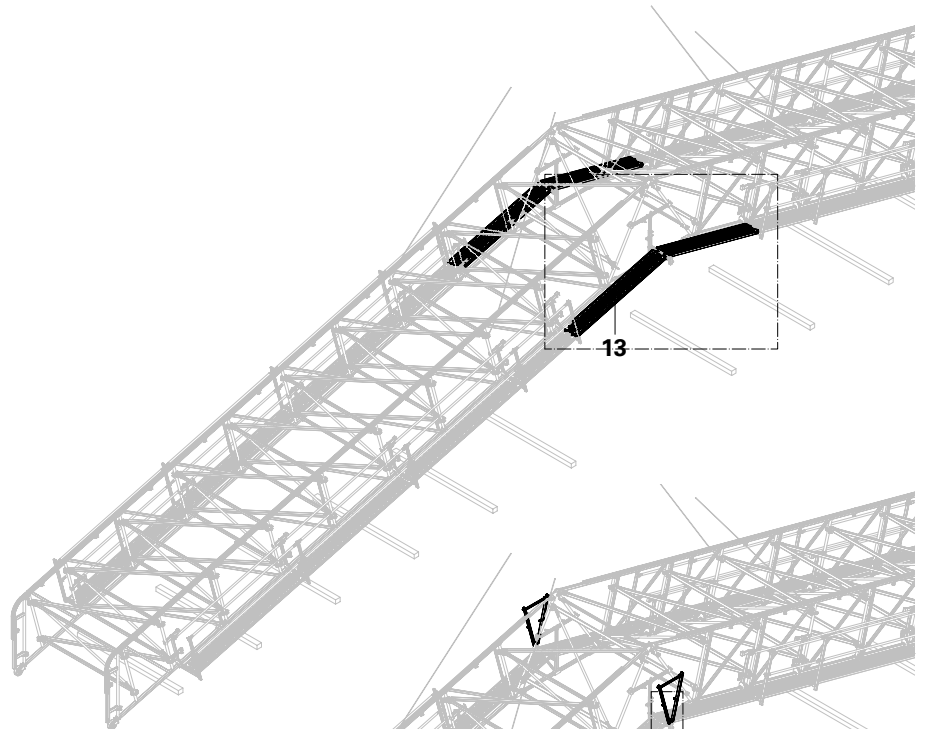

Fig. A5.05
1. Install Industrial Decks (13), see Section A2.2. (Fig. A5.05)